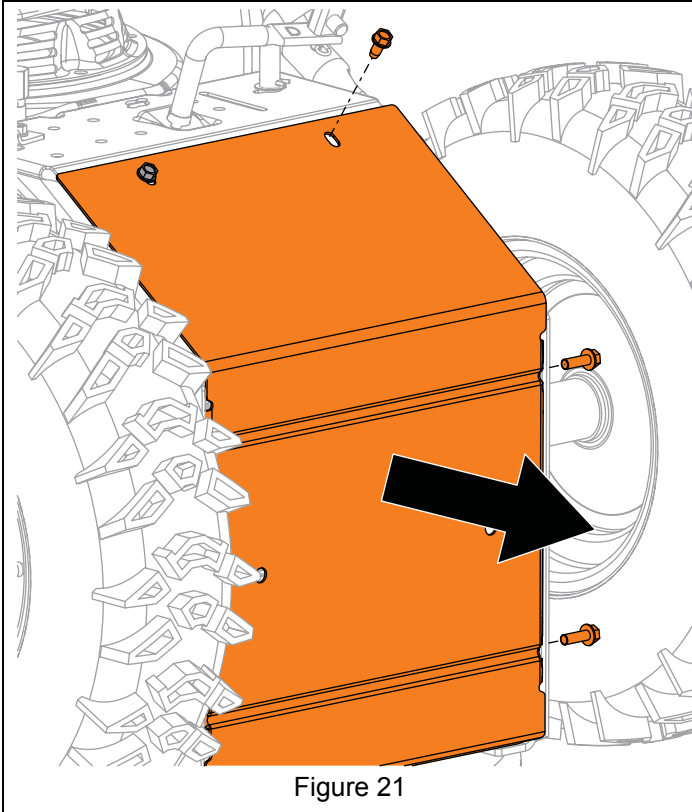

Figure 21
9. Move height-adjuster stop to the right and rotate away from frame. See Figure 21.